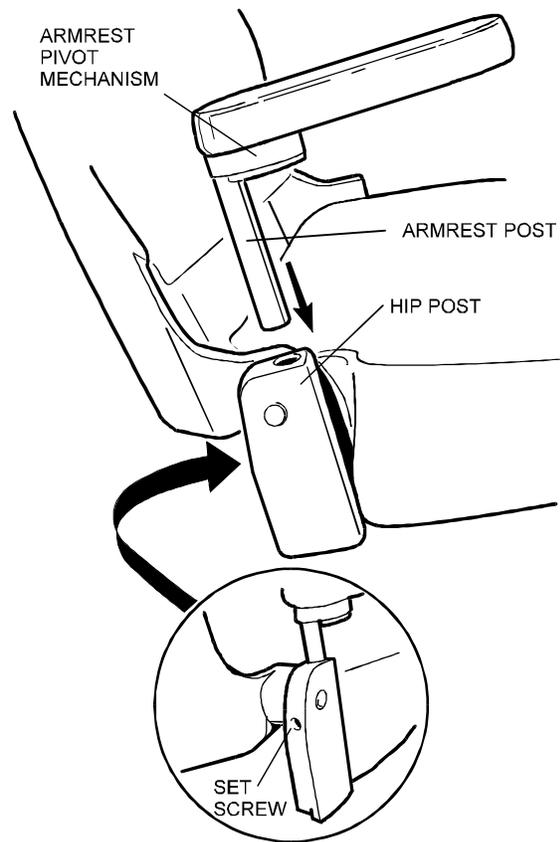

Figure 5
2. Insert the armrest post in the hip post, making sure that the right and left hand mounting positions are observed (See Figures 5 & 6).
3. Position the armrest parallel to the side of the chair and tighten the set screw (See Figure 5).